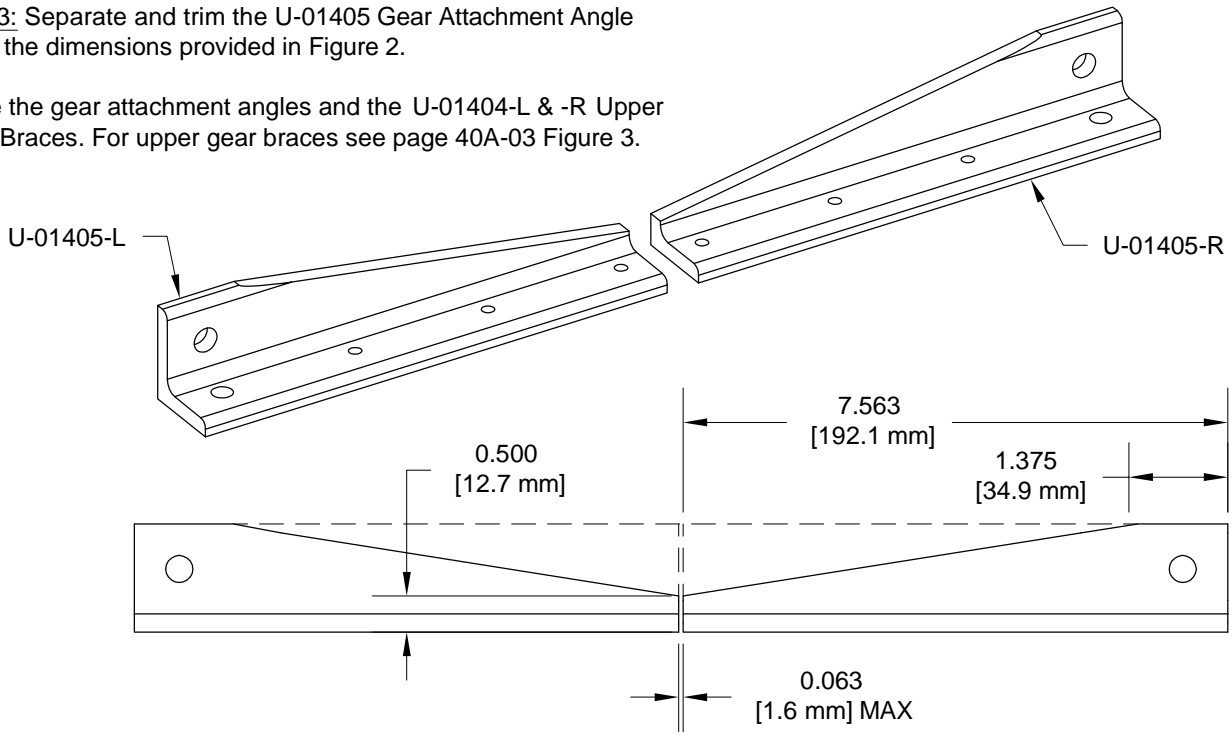

FIGURE 2: SEPARATING THE GEAR ATTACHMENT ANGLE
Step 3: Separate and trim the U-01405 Gear Attachment Angle using the dimensions provided in Figure 2.